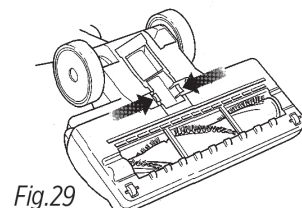
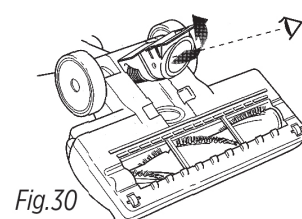

Fig.29
Fig.30
- Turn motorized floor brush over and detach the hose by squeezing the tabs together and pulling it out. Straighten out the hose and inspect the inside for any blockages. (Fig. 29, Fig. 30 )